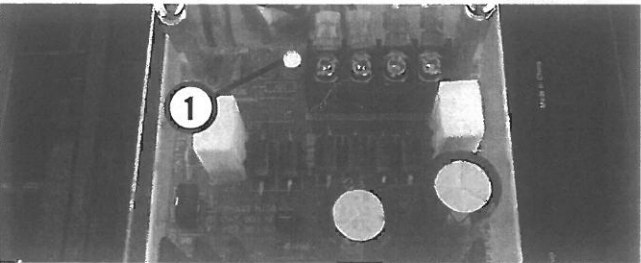

Fig. 1-3
3. Always open box when charging (Fig. 1-2). Green light inside box indicates battery is charging (Fig. 1-3, 1). Battery requires 8 hours to fully charge.